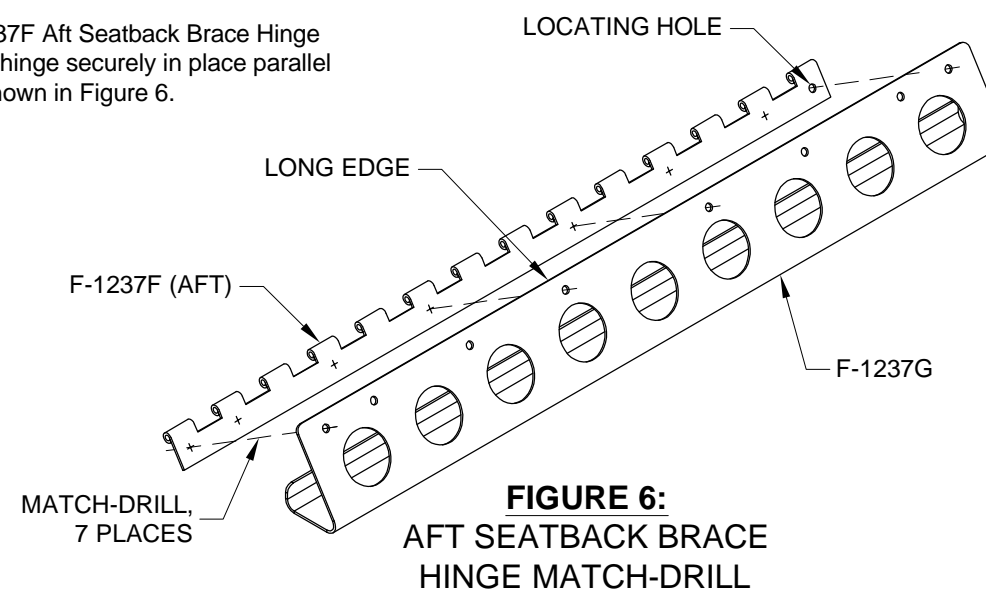

**FIGURE 5:**
**Step 8:** From the AN257-P2 hinge halves, make the F-1237F Fwd and Aft Seatback Brace Hinges per dimensions given in Figure 5.
**Step 9:** Drill a #30 locating hole in the F-1237F Fwd and Aft Seatback Brace Hinges using the dimensions called out in Figure 5.